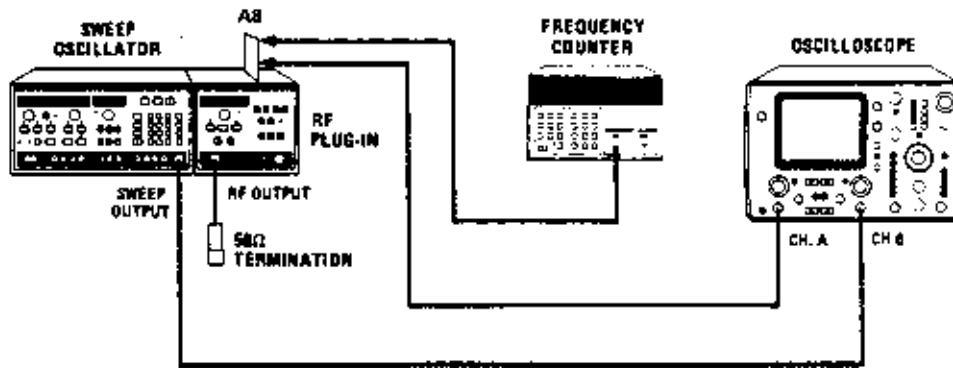
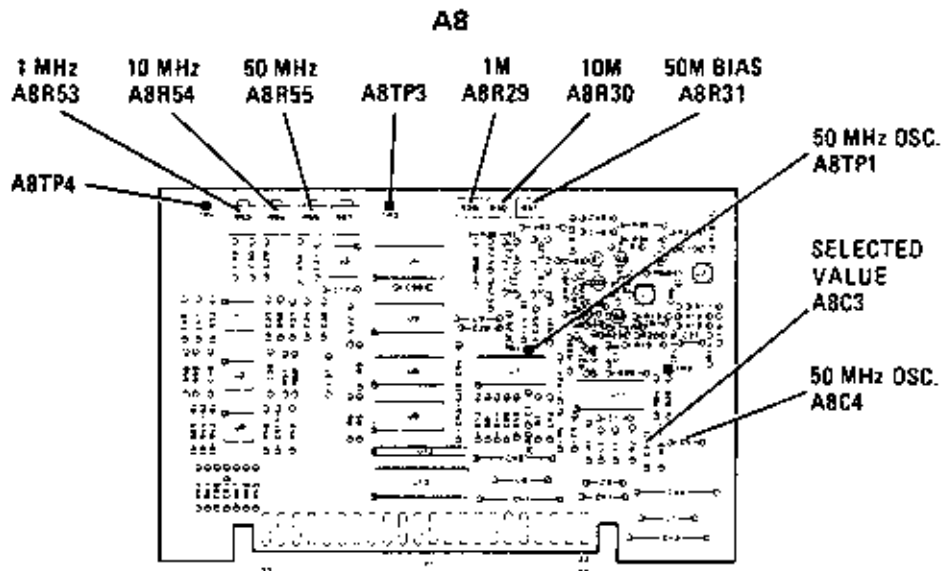
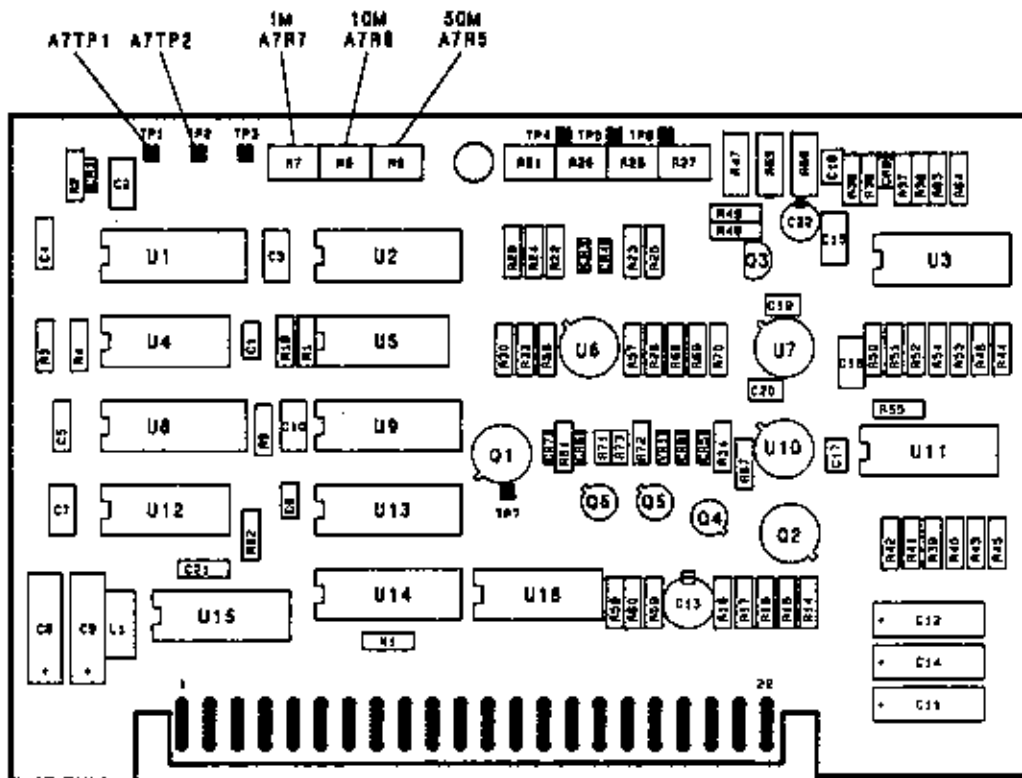

Figure 5-32. Marker Adjustments Test Setup
Figure 5-33. Marker Adjustments on A8
Figure 5-36. Marker Adjustments on A7
1. Place A8 assembly on extender board. Connect equipment as shown in Figure 5-32. For all adjustments and test point locations refer to Figure 5-33 Marker Adjustments on A8 or Figure 5-36 Marker Adjustments on A7. Terminate 83522A RF output in 50 Ohms. Set 1740A oscilloscope to A vs B sweep mode to obtain horizontal deflection as a function of the 8350A/B SWEEP OUT.